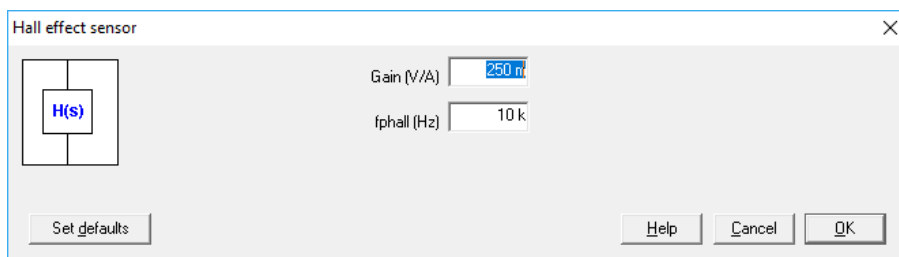

Figure 3: Sensor parameters
- b) Sensor: select a Hall effect sensor. See Figure 3.
In this case, the pole frequency of the Hall effect sensor is 10 kHz as it can be seen in Figure 3.